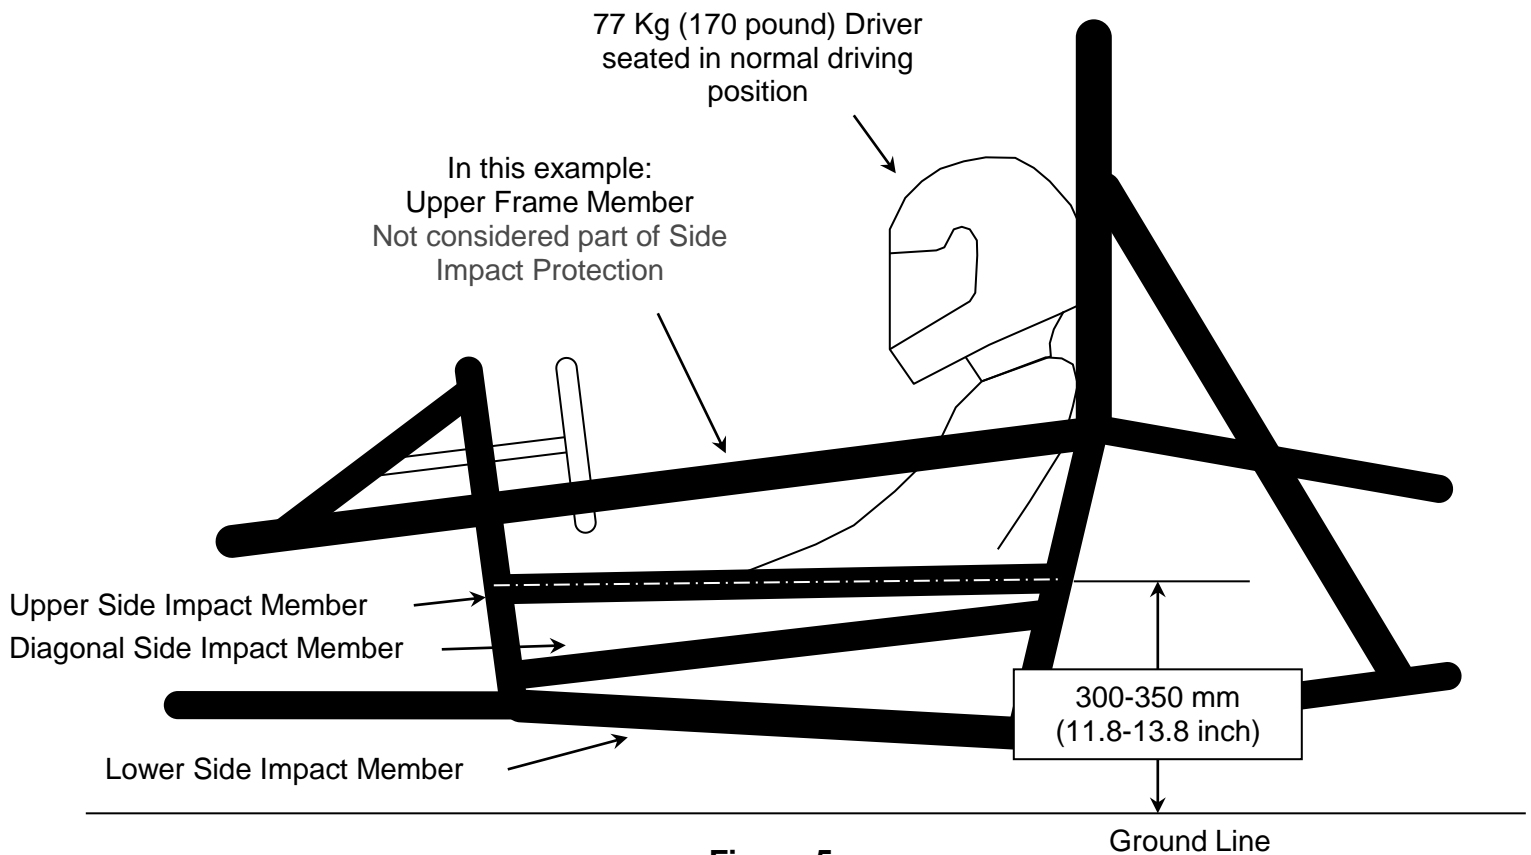

Figure 5
The Side Impact Protection must be comprised of at least three (3) tubular members located on each side of the driver while seated in the normal driving position, as shown in Figure 5. The three (3) required tubular members must be constructed of material per Section 3.3.3. The locations for the three (3) required tubular members are as follows: